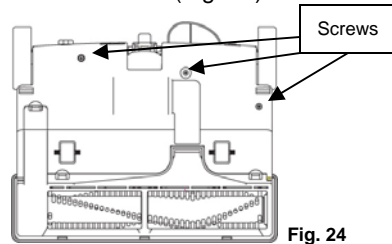

Fig. 24
4. With a screw driver, remove the three screws. (Fig. 24)